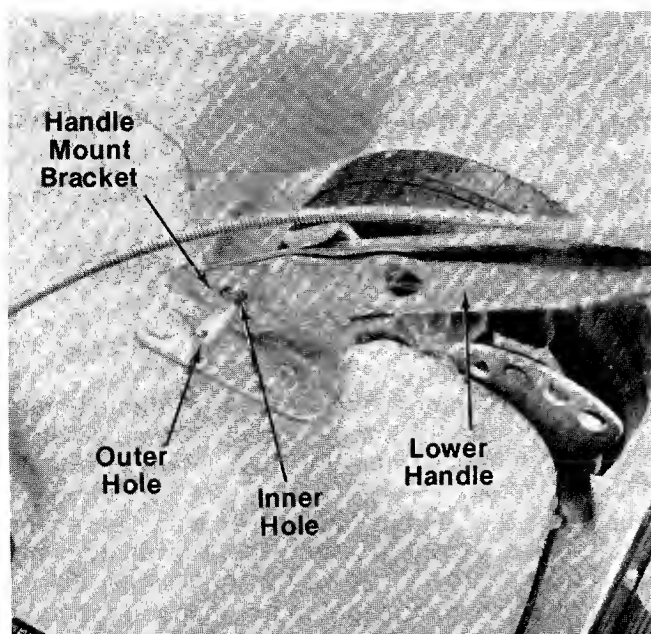

FIGURE 1.
3. Fasten lower handle in position over weld pins in handle mount brackets on deck. Secure with hairpin cotters in inner hole on weld pin. See figure 1.